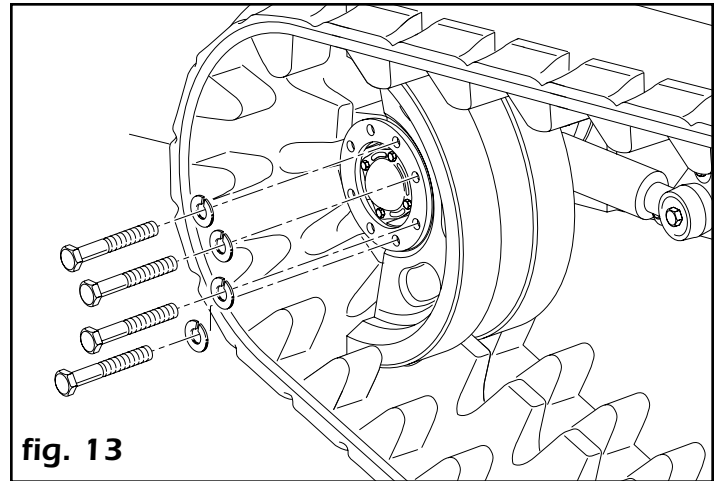

fig. 13
- b.12)** Align the first half-idler in position towards the front of the vehicle (as shown on fig. 13). Install the retaining ring first then lock washers and screws. Hand tighten only, do not torque at this point.
(See fig. 13)